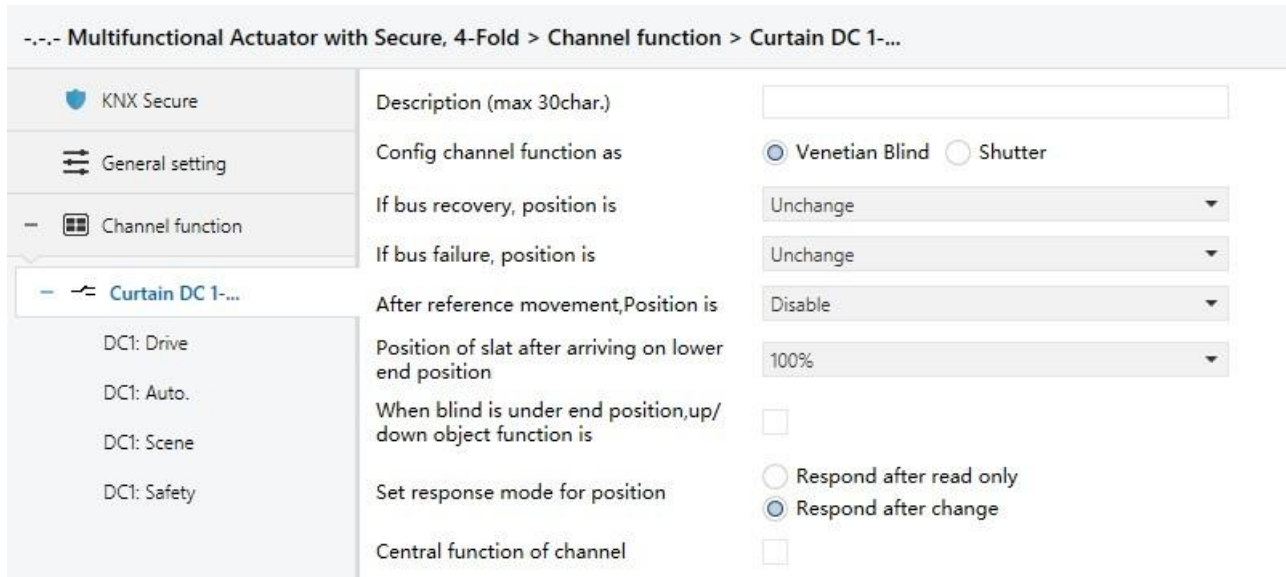

Fig. 4.7 Parameter window “Curtain DC X”
4.7. Shutter (DC) outputs
The curtain (DC) output has a maximum of 6 output channels, since the parameters and communication objects assigned to each output are the same as those of the curtain (AC) output, except that the parameters are not selected by the “Motor type” drive type. The parameter interface is shown in Figure 4.7.